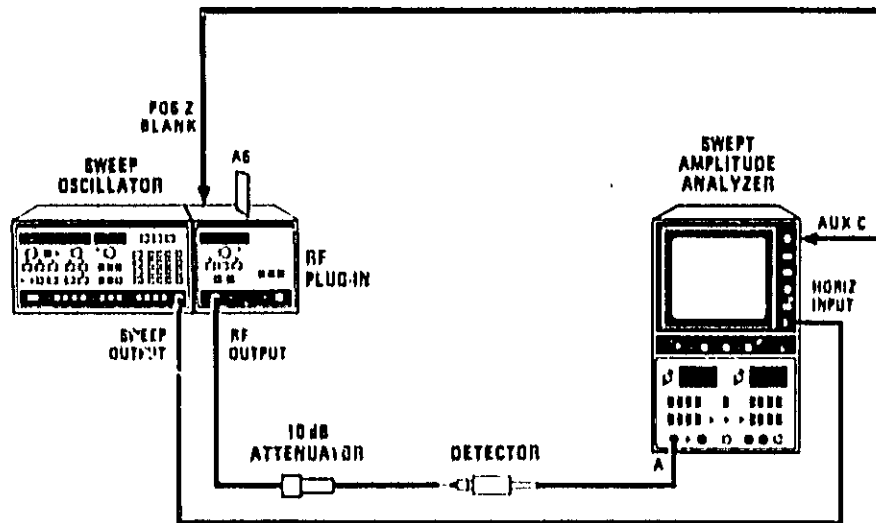

Figure 5-17. Slow Speed YTM and YO Tracking Test Setup
1. Connect the equipment as shown in Figure 5-17 with the 83590A A6 Sweep Control Board on an extender. Allow the equipment to warm up for 1 hour.
1. Connect the equipment as shown in Figure 5-17 with the 83590A A6 Sweep Control board on an extender. With the LINE power OFF, remove the 83590A A4 ALC board. Connect the 8755C MODULATOR DRIVE output to the 83590A rear-panel PULSE IN connector.